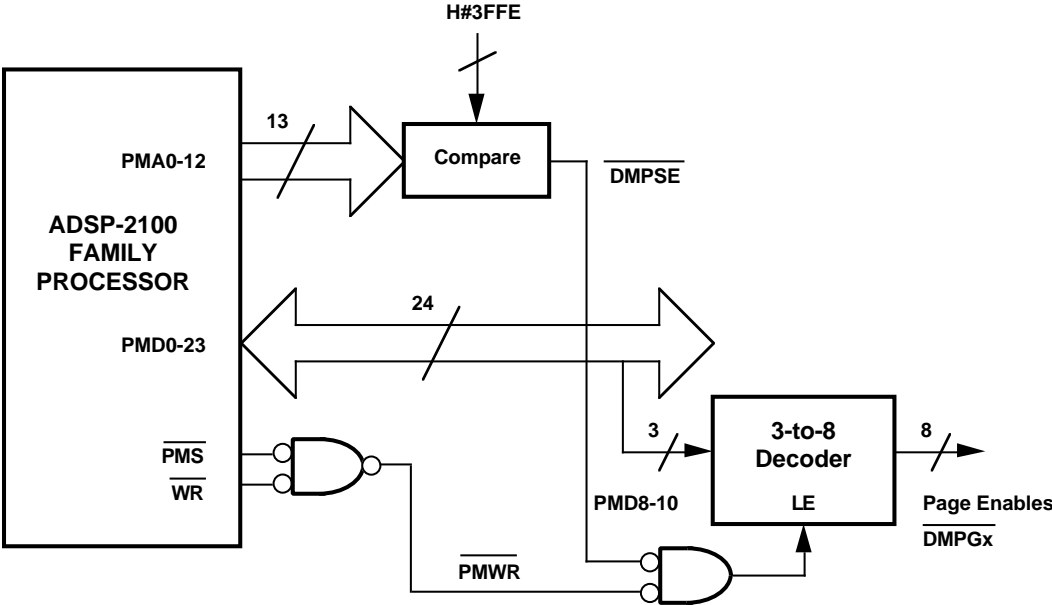

Figure 16.3 Data Memory Page Enables
PMD8-10 from the ADSP-2100 Family processor are input to a 3-to-8 decoder with latchable outputs, as shown in Figure 16.3. The 3-to-8 decoder is always enabled; its latched outputs are only updated on the rising edge of its Latch Enable (LE) input. The outputs of the 3-to-8 decoder are the data memory page enables (DMPGx, where x is the page number).